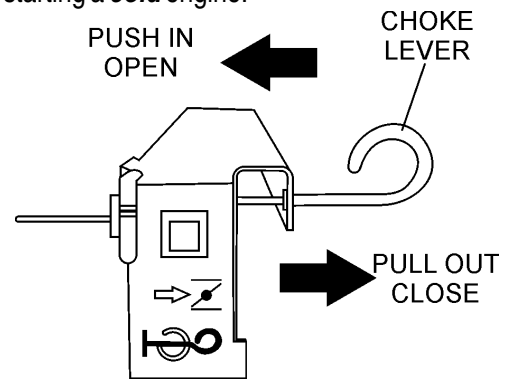

Figure 11. Choke Lever
2. Place the **choke lever** (Figure 11) in the "CLOSED" position if starting a **cold** engine.
3. Place the **choke lever** (Figure 11) in the "OPEN" position if starting a **warm engine** or the **temperature is warm**.
- If the engine has started, slowly return the choke lever (Figure 11) to the "OPEN" position. If the engine has not started repeat steps 1 through 5.